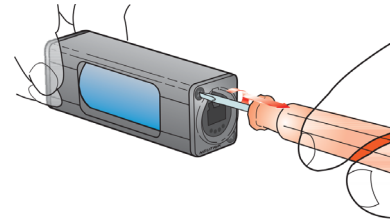

Figure 2-25: opticalCON Coupler Unscrew
- Step 2. Remove all screws and caps. **(Figure 2-25).**